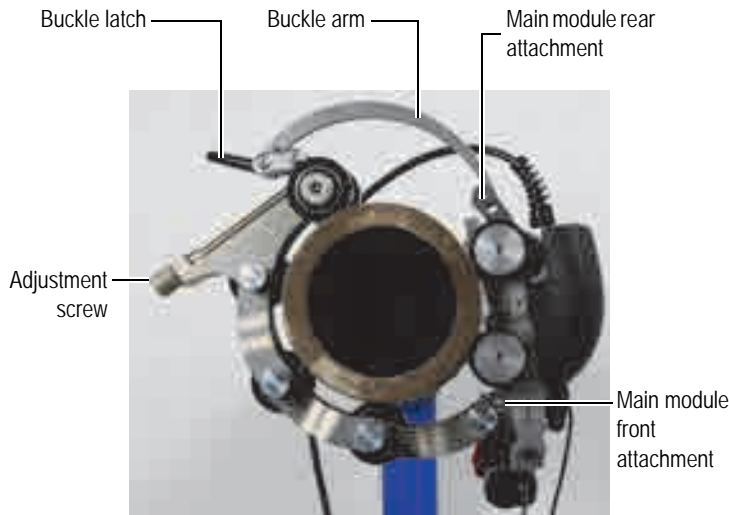

Figure 3-1 Closing the chain around the pipe
5. Adjust the tension of the ChainSCANNER by turning the adjustment screw (see Figure 3-1 on page 50).